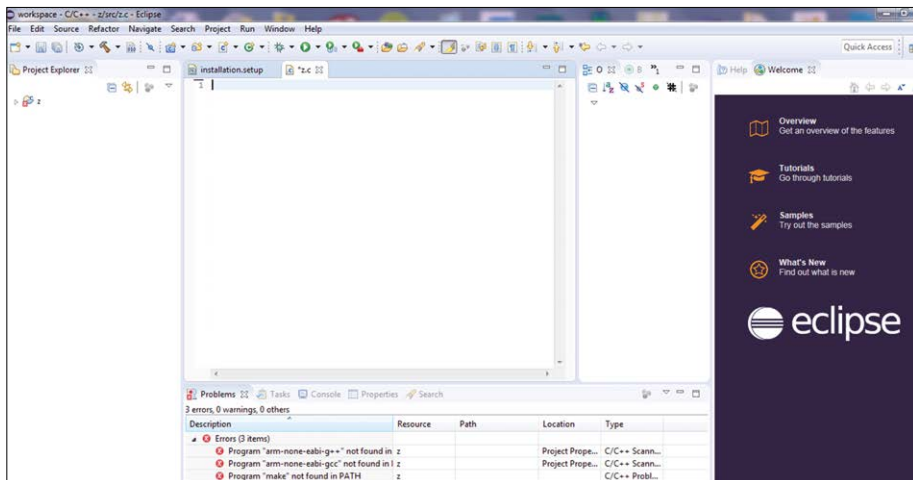

Figure 3.14: SW4STM32 startup screen.
- Figure 3.14 shows the SW4STM32 startup screen.